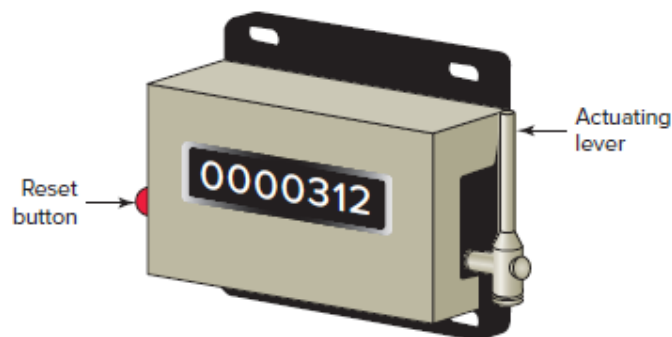

Figure 8-1 Mechanical counter.
- Figure 8-1 shows the construction of a simple **mechanical counter**.